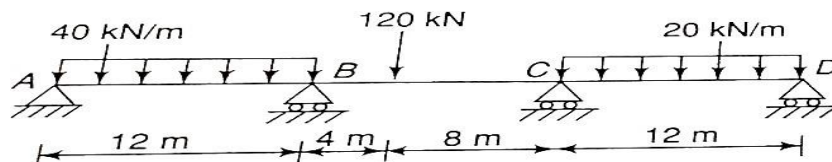

Figure 3.6
6. Using flexibility matrix method for the beam shown in Figure 3.6 and draw shear force and bending moment diagrams, EI is Constant